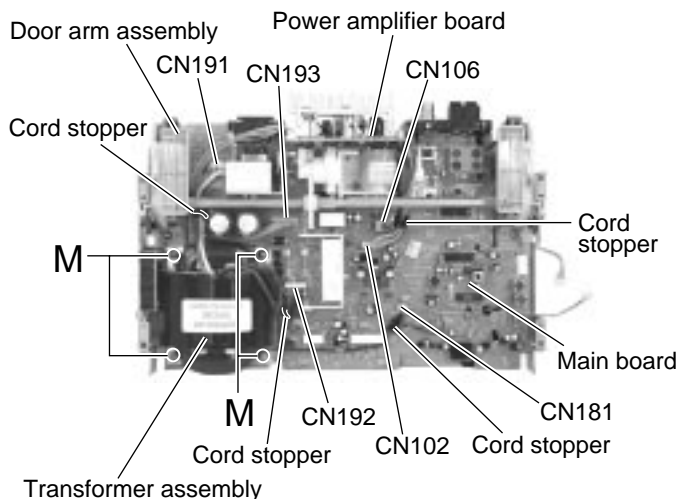

Fig.21
■Removing the power amplifier board (See Fig.21 and 22)
■Removing the transformer assembly (See Fig.21)